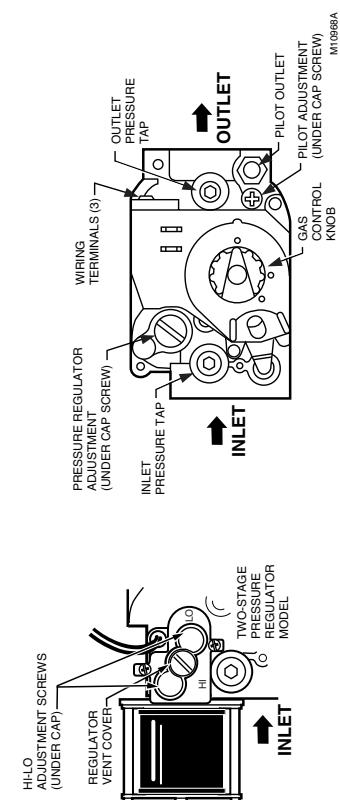

Fig. 6. Top view of gas control.
3. Unscrew the brass compression fitting from the pilot outlet (Fig. 6). Slip the fitting over the tubing and slide out of the way. See Fig. 7.
- With main burner operating, check the gas control flow rate using the meter clocking method or check pressure using a manometer connected to the outlet pressure tap on the gas control. See Fig. 6. If necessary, adjust the pressure regulator to match the appliance rating. See Tables 8A and 8B for factory-set nominal outlet pressure and adjustment range.
- With main burner operating, check the control flow rate using the meter clocking method or check pressure using a manometer connected to the outlet pressure tap on the control. See Fig. 6. If necessary, adjust the pressure regulator to match the appliance rating. See Tables 8A and 8B for factory-set nominal outlet pressure and adjustment range.
- With main burner operating, check the gas control flow rate using the meter clocking method or check pressure using a manometer connected to the outlet pressure tap on the gas control. See Fig. 6. If necessary, adjust the high pressure regulator to match the appliance rating. See Tables 8A and 8B for factory-set nominal outlet pressure and adjustment range.
- Remove the pressure regulator adjustment cap (Fig. 6).